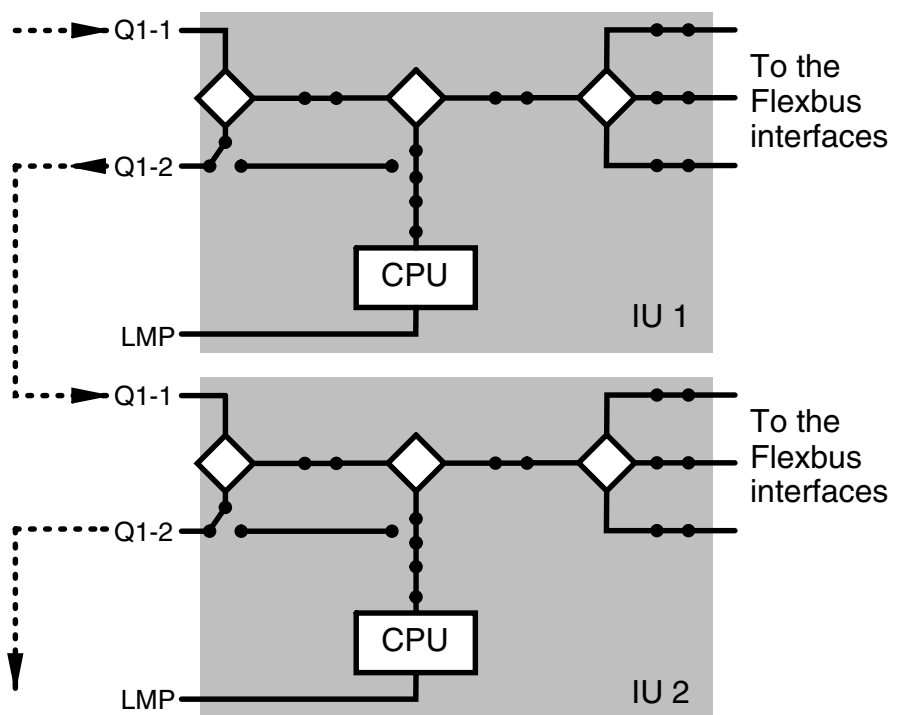

Figure 31. Chaining of the Q1 bus in FIU 19(E)
Usually the Q1 bus is transmitted on the radio path in a separate auxiliary channel within the overhead of the radio frame. The Q1 interfaces are chained and the Q1 signal can be connected to either of them (Figure 31). In this case, a signal connected to the Q1-1 port is routed to the Flexbus interfaces (radio path), to FIU 19(E) processor, and out from the Q1-2 port. The same applies vice versa to a signal connected to the Q1-2 port.